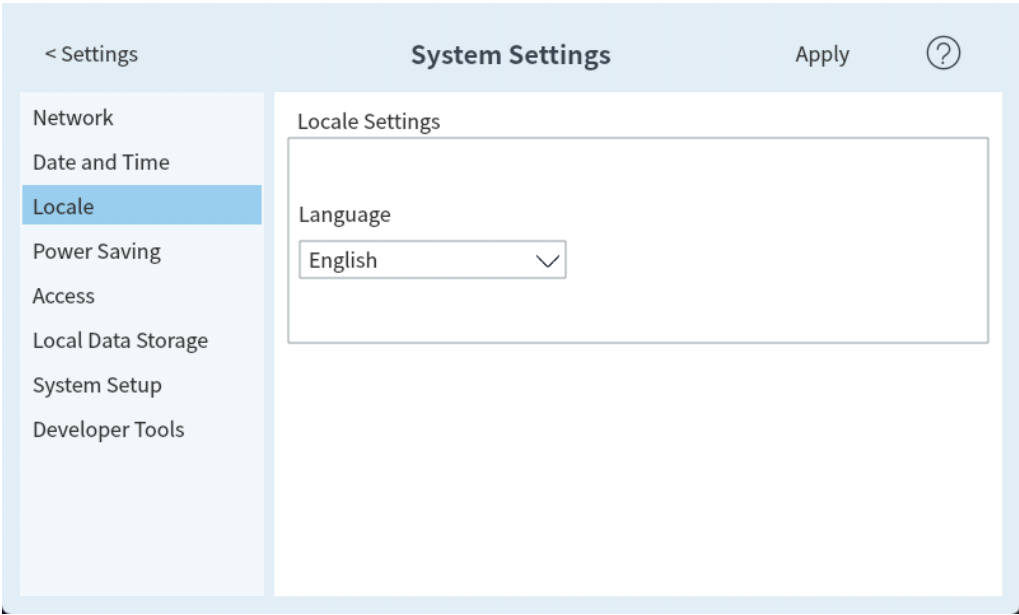

Figure 55. Locale Settings page
1. From the System Settings page, select the **Locale** page selection button. The Locale Settings page appears. See Figure 55.